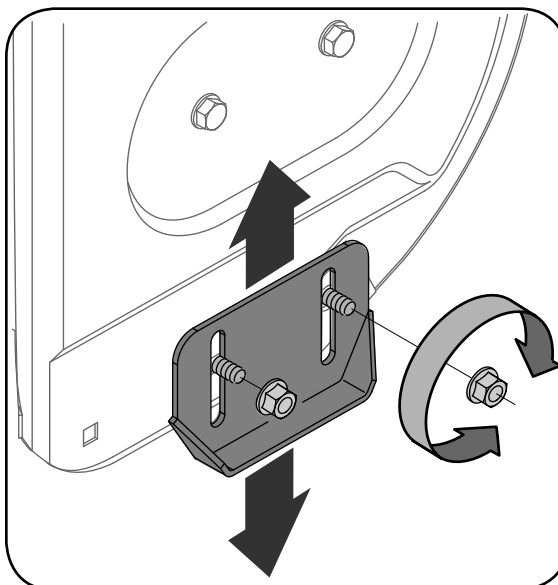

Figure 16A - Standard Skid Shoe
1. Adjust skid shoes by loosening the four lock nuts and carriage bolts and moving skid shoes to desired position. See Figure 16A or 16B.